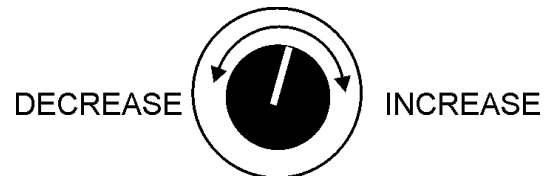

Figure 52. Voltage Adjust Control Knob
11. Use the voltage adjustment control knob (Figure 52) to increase or decrease the desired voltage.